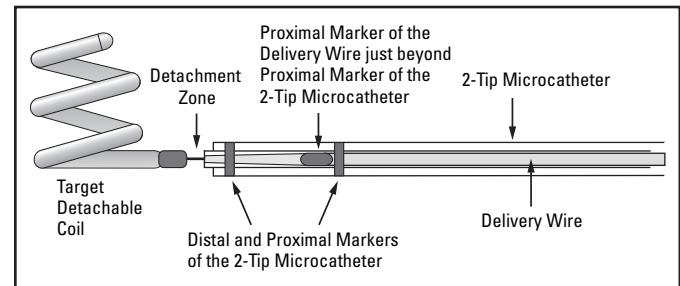

Figure 4. Optimal Alignment of Radiopaque Markers
- Continue to advance the Target Detachable Coil until the radiopaque proximal marker on the delivery wire is exactly distal to the proximal marker on the 2-tip microcatheter (see Figure 4 below). Tighten the RHV to prevent movement of the delivery wire.